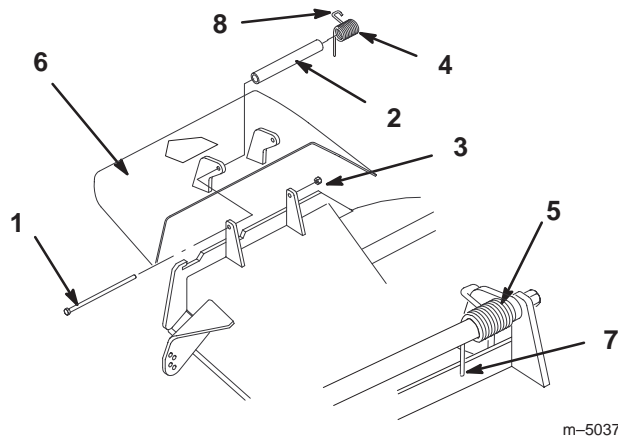

Figure 61
1. Remove the locknut, bolt, spring, and spacer holding the deflector to the pivot brackets (Fig. 61). Remove the damaged or worn grass deflector.
Note: Make sure that the straight end of the spring is installed behind the deck edge before installing the bolt as shown in Figure 61.
3. Install the bolt and nut. Place the hook end of the spring around the grass deflector (Fig. 61).